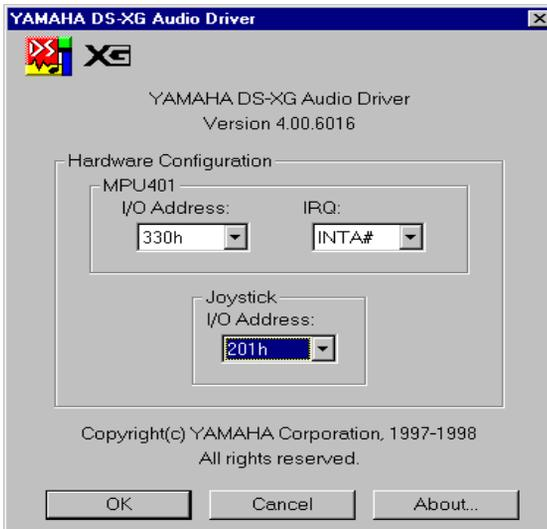

Figure 2-4 The YAMAHA DS-XG Audio Driver window.
- 10) Windows NT will now copy the necessary files to your computer. When the YAMAHA DS-XG Audio Driver window appears, verify that the MPU401 I/O address, IRQ, FM I/O address and Joystick I/O address settings are correct as shown in Figure 2-4 below. Click the “OK” button to continue.